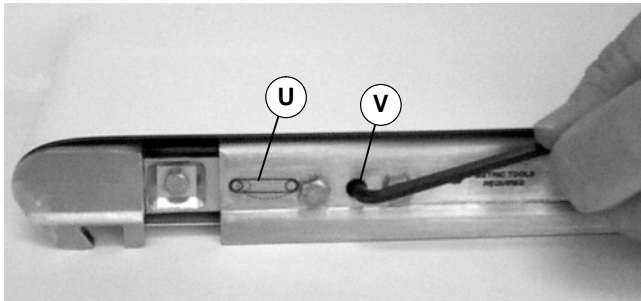

Figure 18
3. On tension end of the conveyor identified with a  label (U Figures 18 & 19), insert a 5 mm hex key wrench to engage pinion gear (V of Figure 18).
1. On tension end of the conveyor identified with a  label (U Figures 18 & 19), insert a 5 mm hex key wrench to engage pinion gear (V of Figure 18).
NOTE: On pinion gear (V of Figure 18), do not exceed of 25 in-lb (2.8 Nm) for 2" to 12" (44 mm to 305 mm) wide conveyors and 40 in-lb (4.5 Nm) for an 18" (457 mm) wide conveyor. Over-tensioning the conveyor belt could cause excessive pulley bearing load and early failure.